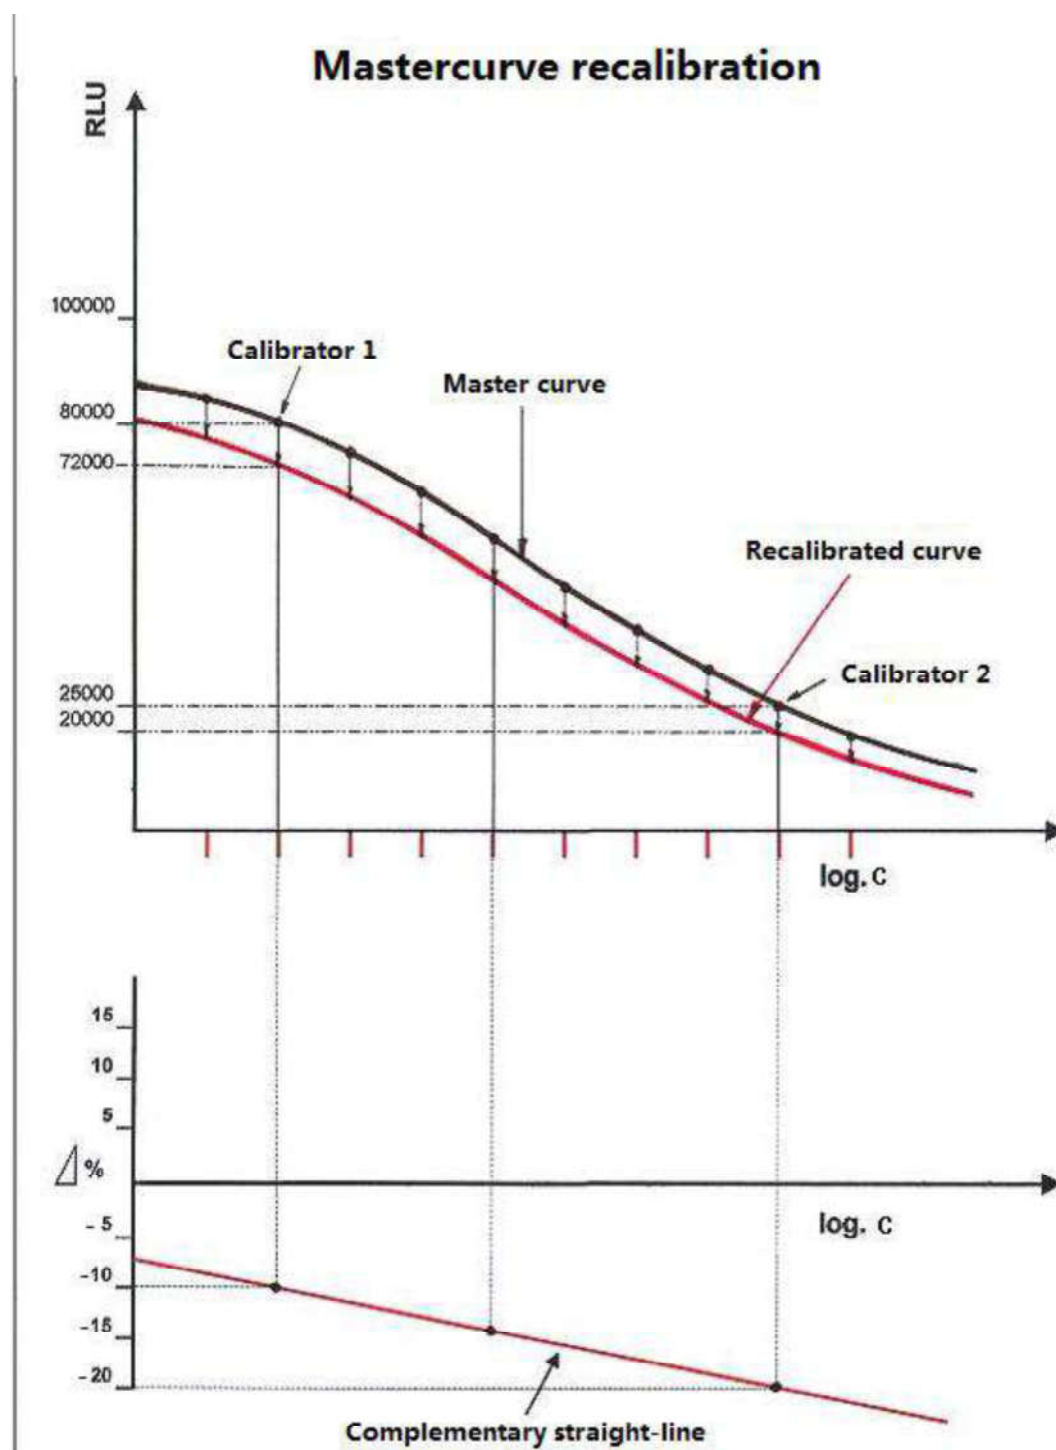

Fig. 1.3-1 Calibration principle
- This recalculated curve is the valid work curve (see Fig. 1.3-1: Calibration principle).